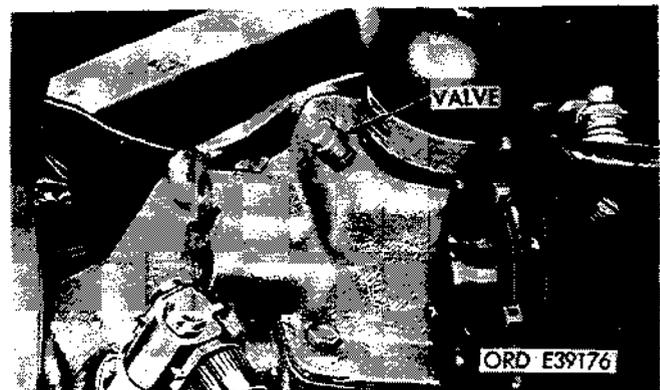

Figure 2-290. Unscrew and remove breather valve.
- (1) Remove transmission cover plate (para 2-199).
- (2) Unscrew breather valve and remove (fig. 2-290).